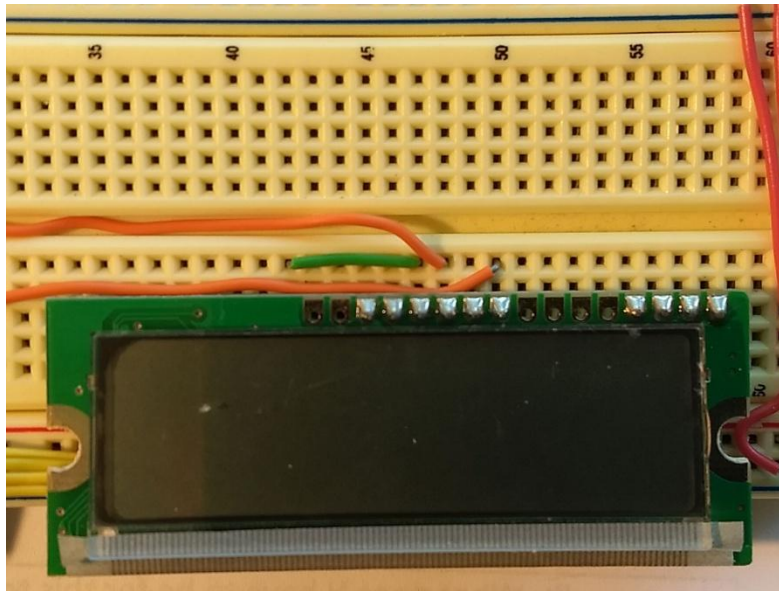

Figure 5. Attaching the LCD.
4. Attach the LCD in row C pushing its pins into holes C45 through C58, as shown in Figure 5. It is very important that the wires line up correctly with the wires on the breadboard. Check to make sure the